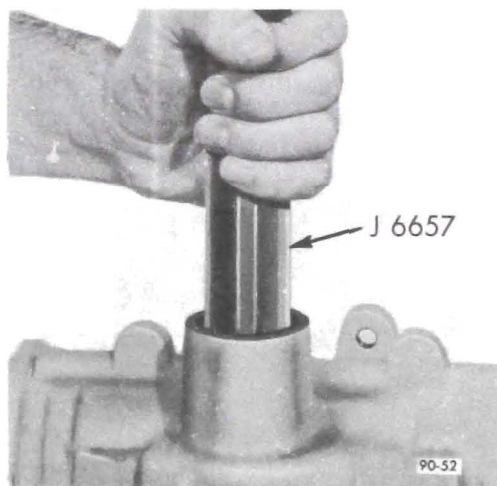

Figure 90-63 Removing Pitman Shaft Needle Bearing
2. Check the pitman shaft needle bearing for wear, pitting, or scoring. If damaged, remove needle bearing from gear housing bore by driving from the seal bore side of housing using Tool J-6657. See Figure 90-63. Discard bearing.